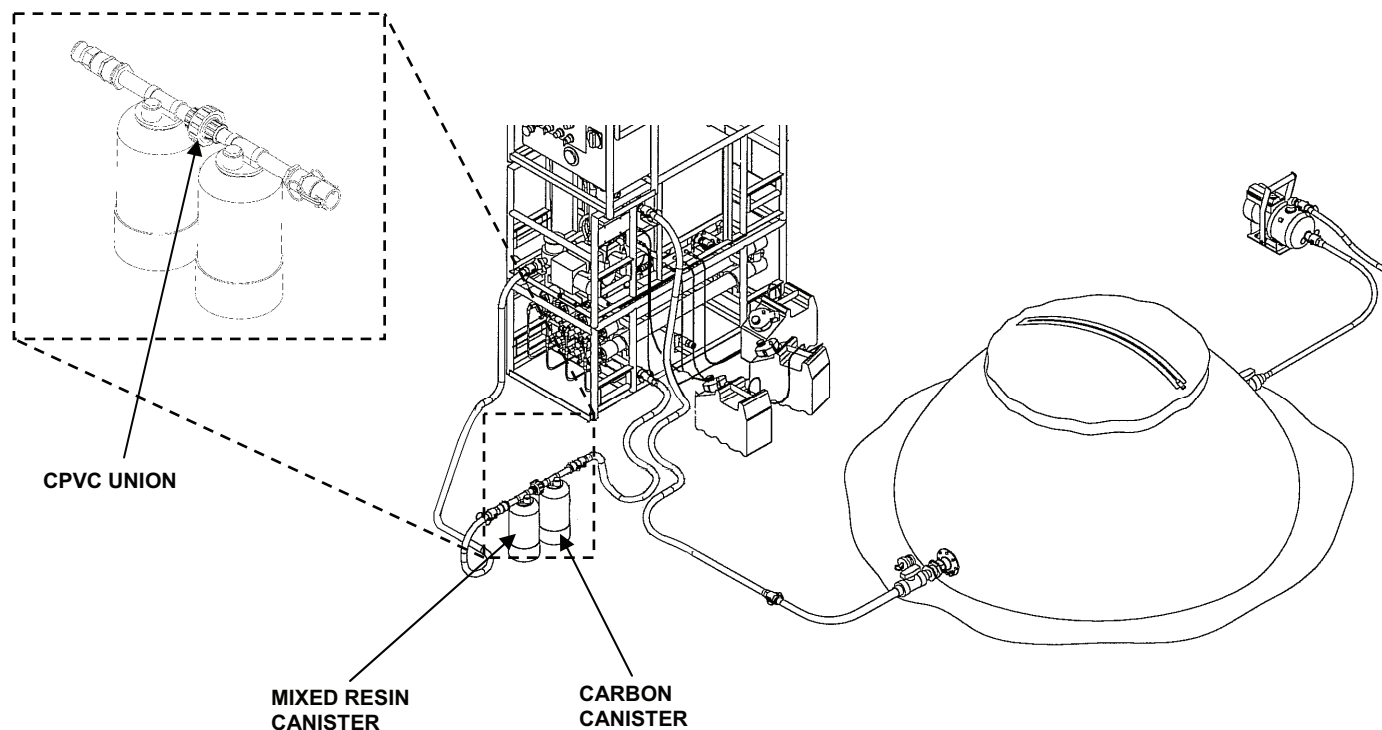

Figure 5. NBC Carbon and Mixed Resin Canisters.
3. Place the NBC canisters adjacent to the Reverse Osmosis (RO) element module and chemical module.
4. Join the two canisters with the CPVC union. See Figure 5.
6. Use the section of hose removed in previous step to connect the NBC canisters between the RO module and the chemical module. See Figure 5.